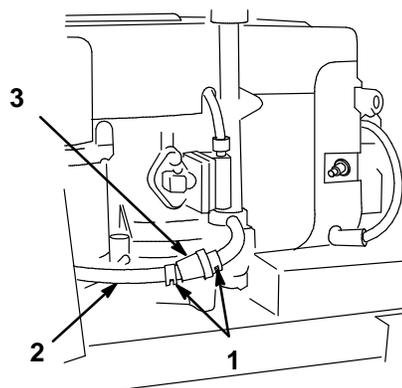

Figure 29
4. Squeeze the ends of the hose clamp together and slide it up the fuel line toward the fuel tank (Fig. 29).
5. Pull the fuel line off the filter (Fig. 29). Open fuel shut-off valve and allow gasoline to drain into an approved gas can.